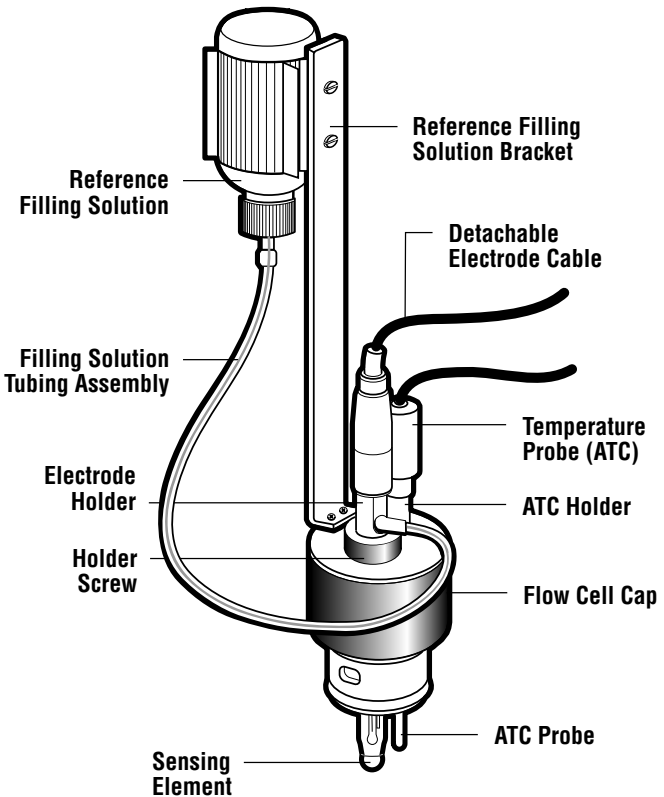

Figure 4 - Assembled Flow Cell Cap with Sensors
4. Insert the holder with electrode, into the flow cell cap. (See **Figure 4**)